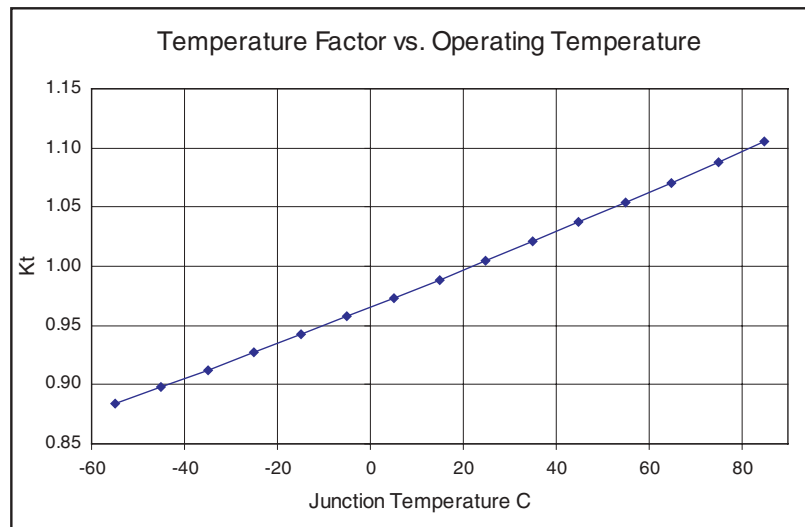

Figure 19: Temperature Factor vs. Operating Temperature
a. The data provided in this table are JEDEC and PCI specifications—QuickLogic devices either meet or exceed these requirements. For data specific to QuickLogic I/Os, see Table 1 through Table 14 and Figure 1 through figure 19.